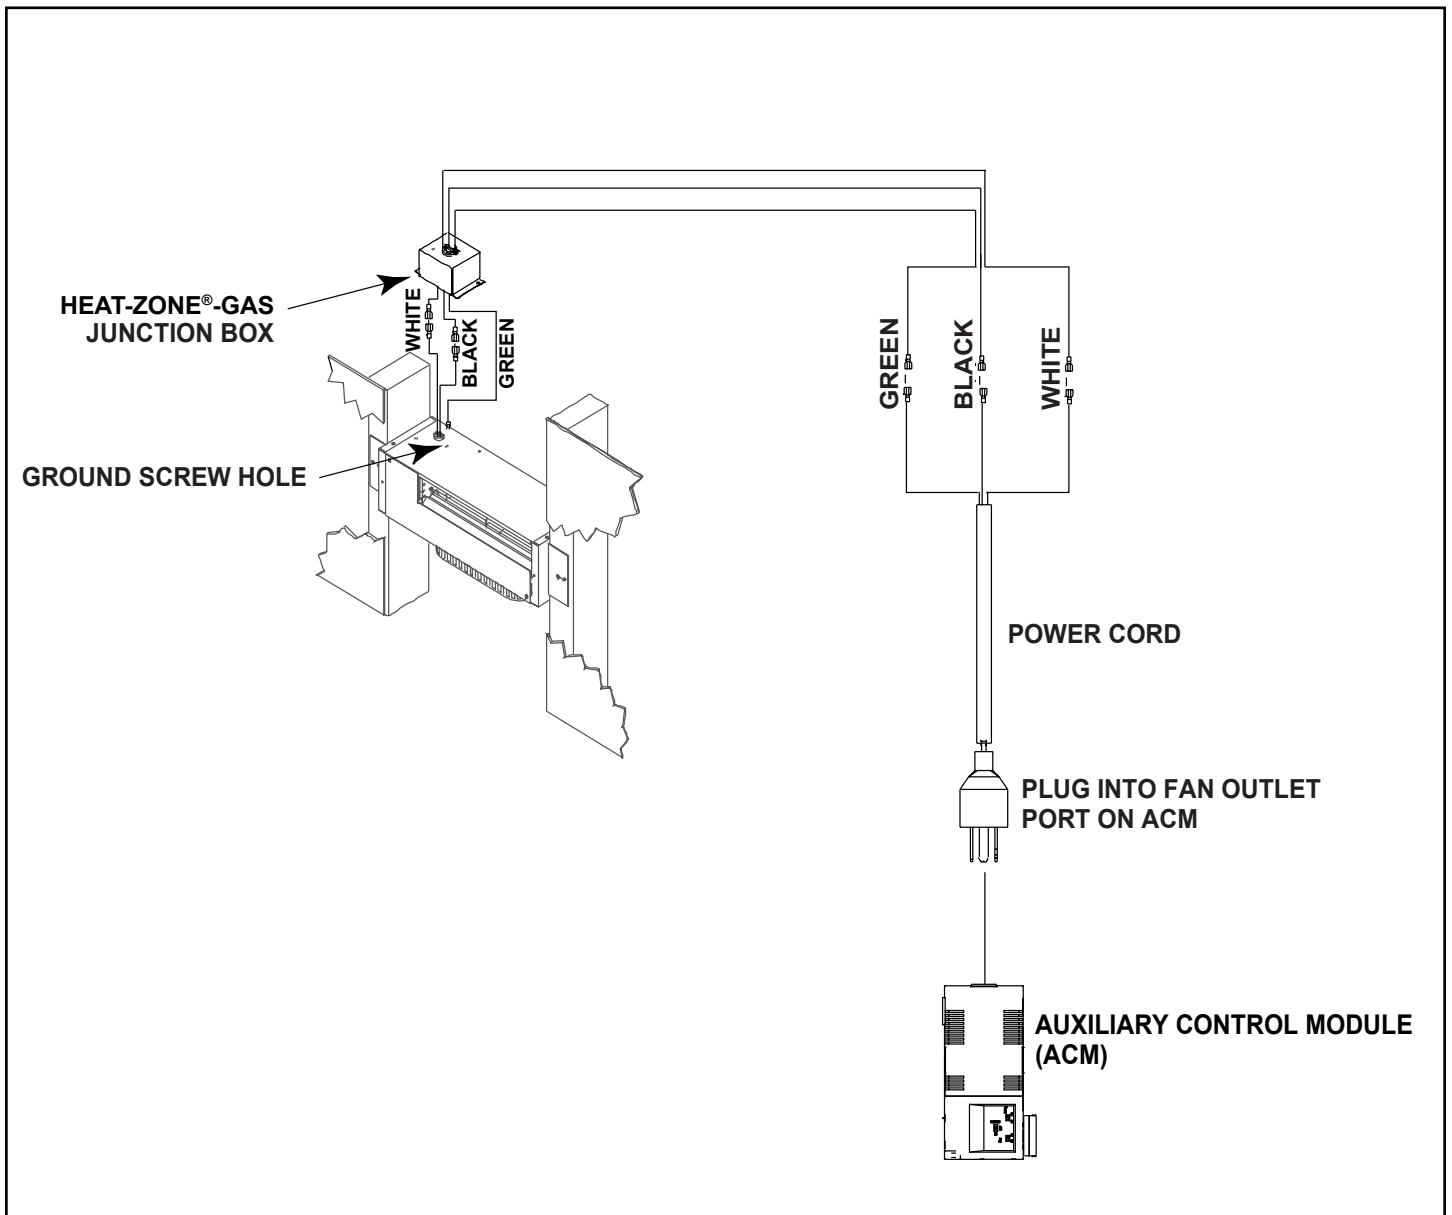

Figure 5 Heat-Zone®-Gas Wiring Diagram
- Use the power cord supplied with the Heat-Zone®-Gas kit to plug the Heat-Zone®-Gas into the fan port on the auxiliary control module (ACM). See Figure 5.